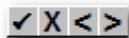

Figure 106: Template Definition Saving Options
- ◆ Saving options appear at the bottom of the graph (*Figure 106*).